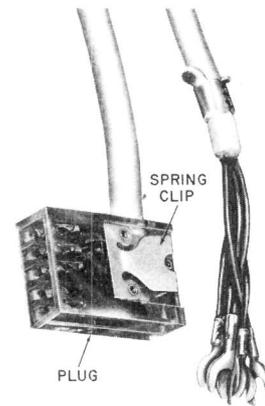

Fig. 13—D5AL Mounting Cord
3.07 On the AD1 or AD1M base, insert the plug end of the D4BW and D5AL (Fig. 13) or D5AN mounting cord into the jack located on the underside of the AD1 base assembly. **Make sure that the spring clip of the plug snaps into place to secure the plug.** Lay the cord in the cord channel and slide the cord retainer (early